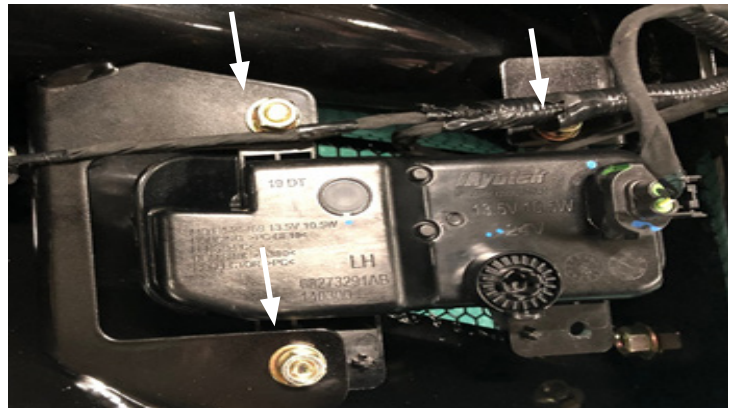

Figure 19
18. Install the OEM fog lights into the bumper using a 1/2" socket wrench with the three (3) 5/16" bolts, flat and lock washers with nuts (50194-HW). (Figure 19)